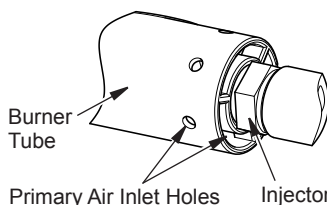

Figure 28 - Burner and Injector Holder
2. Inspect burner, pilot and primary air inlet holes on injector for dust and dirt (see Figure 28).